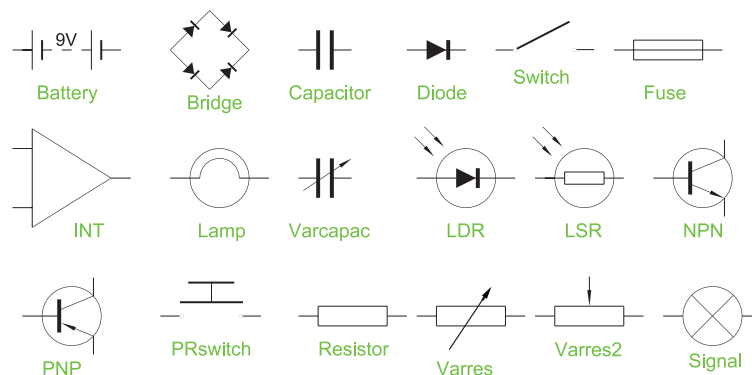

Fig. 9.17 Example using the **DesignCenter** – a set of electric/electronic systems
1. Construct the set of electric/electronic circuit symbols shown in Fig. 9.17 and make a series of blocks from each of the symbols.
2. Construct drawings of the electric/electronics symbols in Fig. 9.17 (p. 175) and save them as blocks in a drawing file **electronics.dwg**.